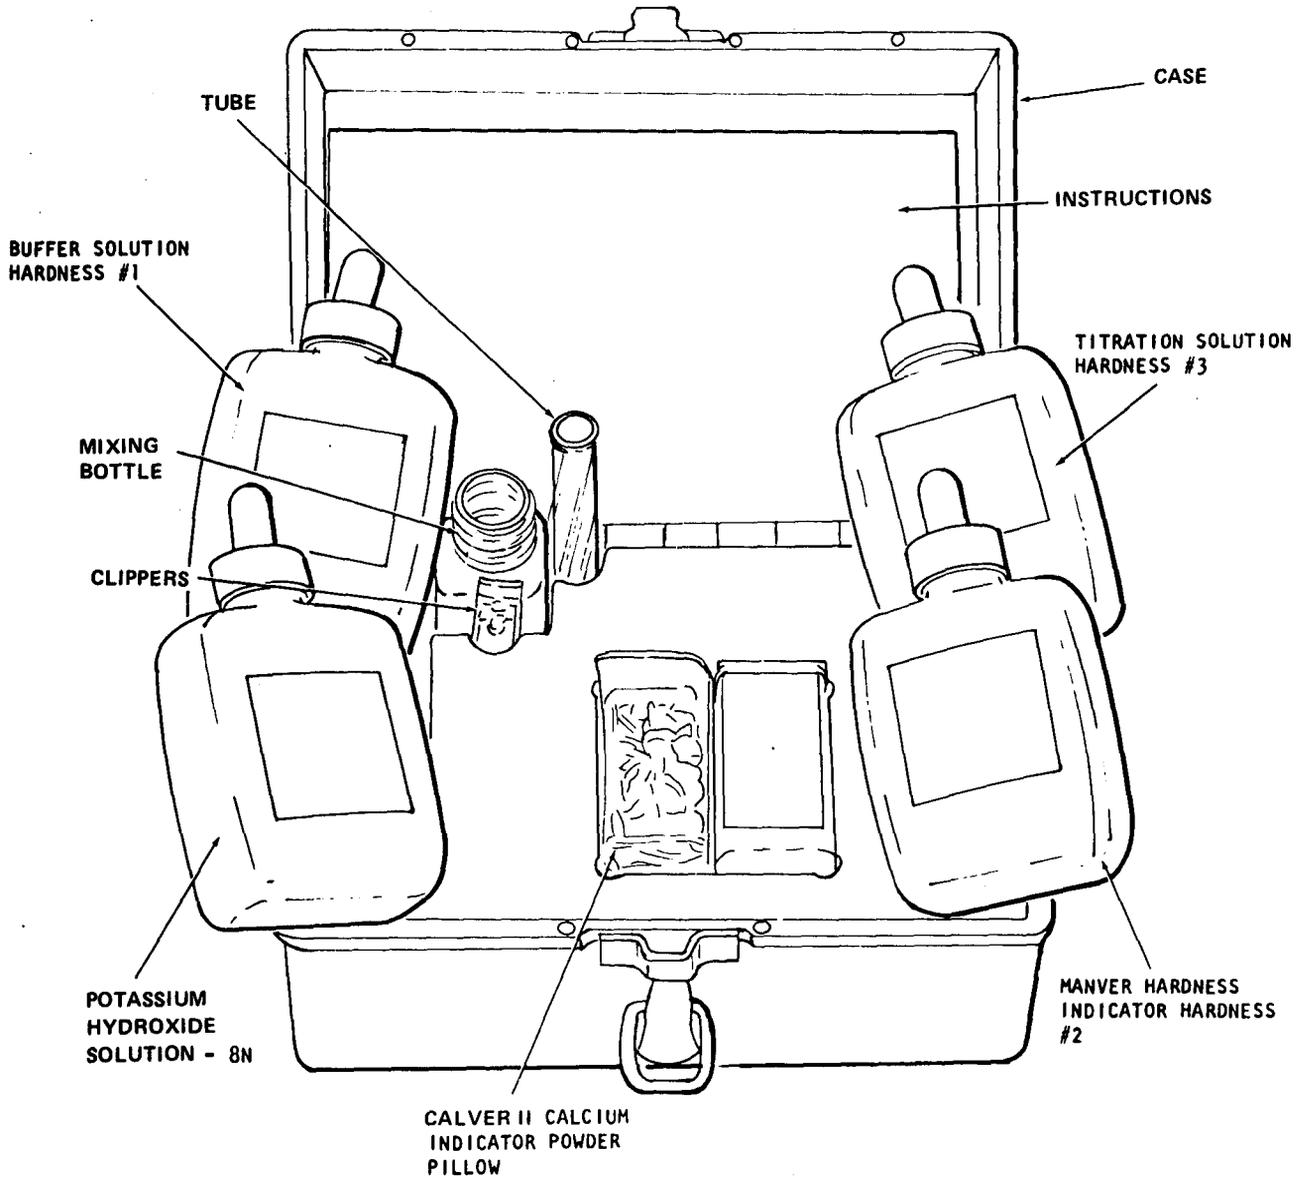

Figure 2-18. Hardness Test Kit
g. Hardness Test Kit (Range 0 mg/l to 9000 mg/l) (fig. 2-18).
(1) Hardness is defined as a total characteristic of water which represents the total concentration of calcium and magnesium expressed as their calcium carbonate equivalent. When other polyvalent metal ions are present in significant amounts they are also determined and reported as hardness.